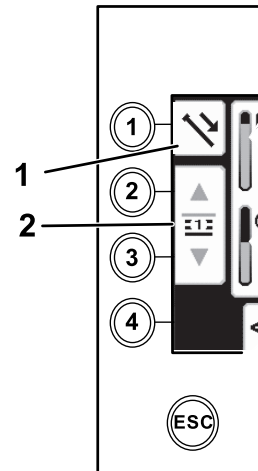

Figure 32
1. Push button 1 to select push pipe (Figure 32).
2. Push buttons 2 and 3 to select the row where you want to get the pipe (Figure 32).